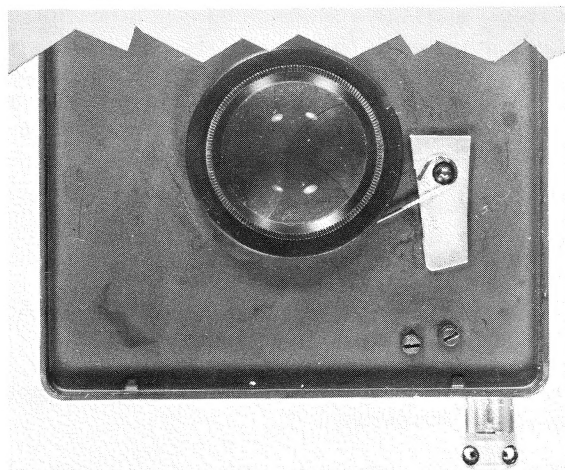

Figure 10. CAM WITH RETAINER SPRING
i. The cam retainer spring, selected to suit the diameter of the lens, is snapped around the lens flange so that the cam can be stored on the rear of the lens-board (figure 10).